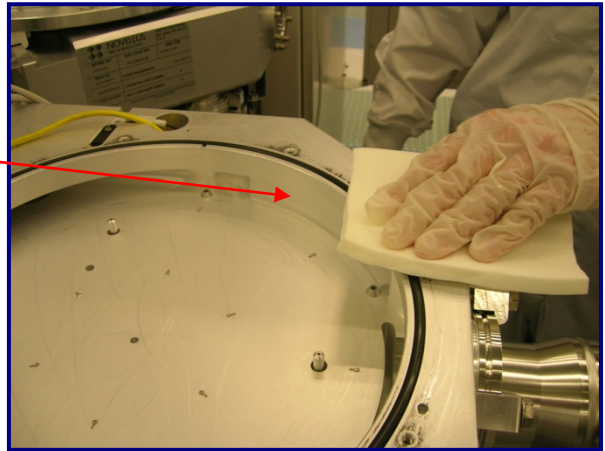

Fig 2: Moisten ScrubPAD and UltraSOLV[®] Sponge with DI water
Step 3: Take the HT4536D 360 Grit Diamond ScrubPAD and HT4754 UltraSOLV[®] Sponge and dampen with DI water (See Fig 2)